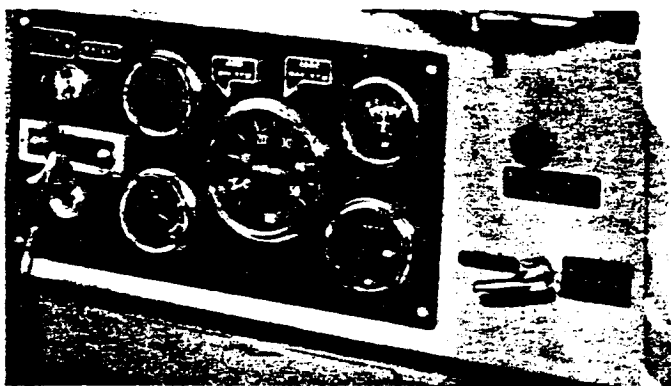

Fig. 6
- A. The throttle control is located to the right of the instrument panel. See Figure 6. Engine speed is increased by pulling on the control and locking it by turning clockwise. The control can be locked in any desired position.
- A. The instrument panel is shown in Figure 6.